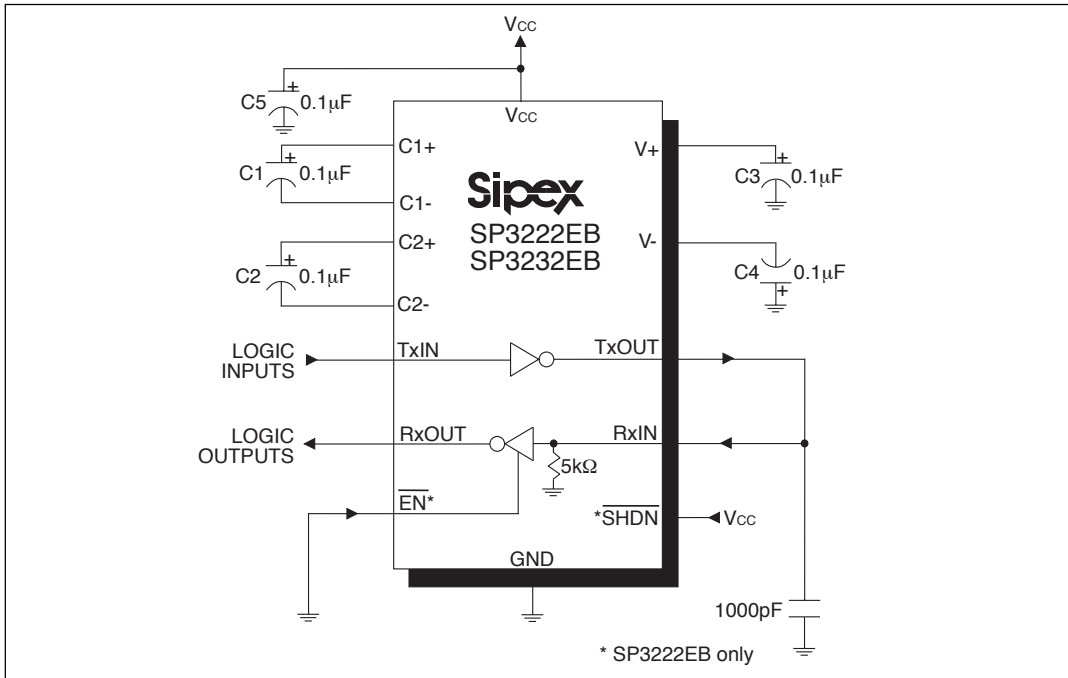
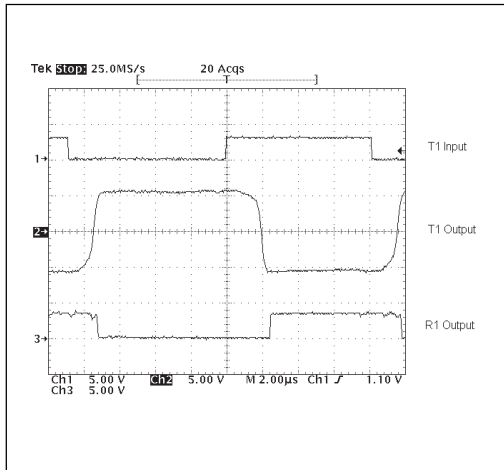
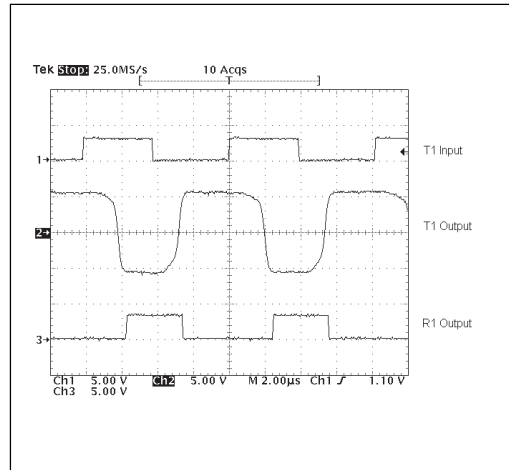

Figure 10. SP3222EB/3232EB Driver Loopback Test Circuit
Figure 11. Driver Loopback Test Results at 120kbps
Figure 12. Driver Loopback Test Results at 250kbps
*Figure 10* shows a loopback test circuit used to the RS-232 drivers. *Figure 11* shows the test results of the loopback circuit with all drivers active at 120kbps with RS-232 loads in parallel with  $1000\text{pF}$  capacitors. *Figure 12* shows the test results where one driver was active at 250kbps and all drivers loaded with an RS-232 receiver in parallel with a  $1000\text{pF}$  capacitor. A solid RS-232 data transmission rate of 250kbps provides compatibility with many designs in personal computer peripherals and LAN applications.